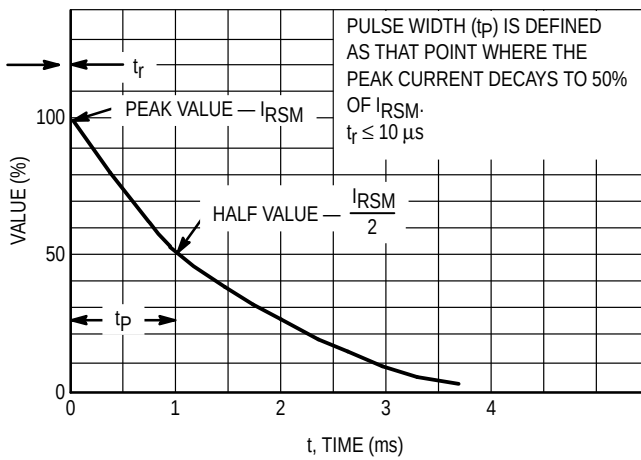
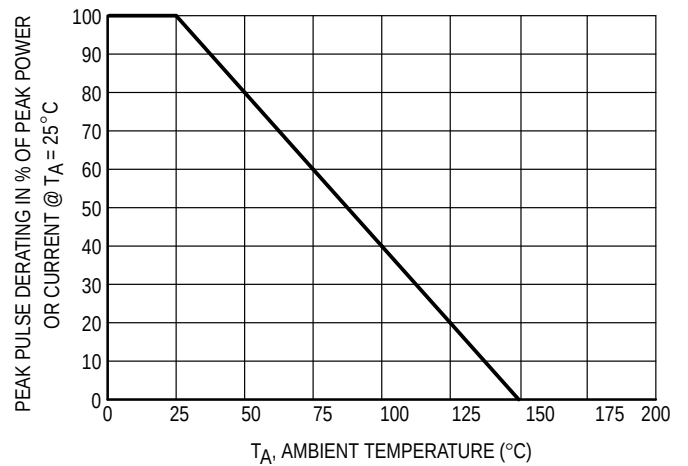

Figure 7. Pulse Waveform
Figure 8. Pulse Derating Curve
- Peak Power — 24 Watts @ 1.0 ms (Unidirectional), per Figure 7 Waveform
1. Non-repetitive current pulse per Figure 7 and derate above $T_A = 25^\circ\text{C}$ per Figure 8.
For any given circuit board, there will be a group of control settings that will give the desired heat pattern. The operator must set temperatures for several heating zones and a figure for belt speed. Taken together, these control settings make up a heating "profile" for that particular circuit board. On machines controlled by a computer, the computer remembers these profiles from one operating session to the next. Figure 8 shows a typical heating profile for use when soldering a surface mount device to a printed circuit board. This profile will vary among soldering systems, but it is a good starting point. Factors that can affect the profile include the type of soldering system in use, density and types of components on the board, type of solder used, and the type of board or substrate material being used. This profile shows temperature versus time. The line on the graph shows the